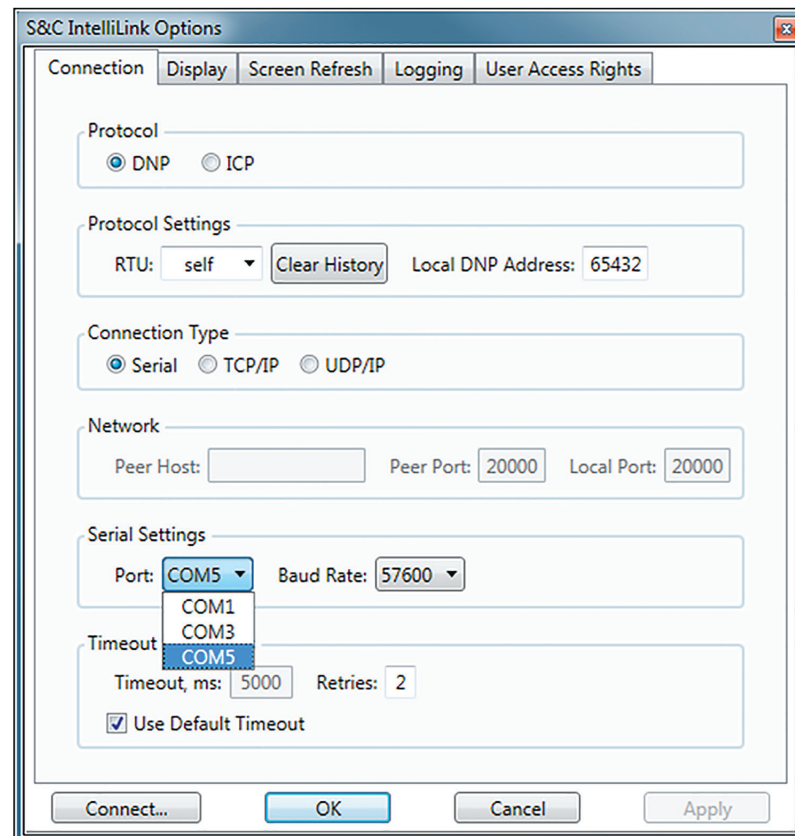

Figure 8. IntelliLink Options, Connection tab dialog box.
- STEP 2.** Try another communications port. The COM1 port on the computer may be assigned to a different device. In the **Tools** drop-down menu, select the **Options...** entry to open the S&C IntelliLink Options dialog box. See Figure 8. Select the **Connection** tab and select a new comm port.